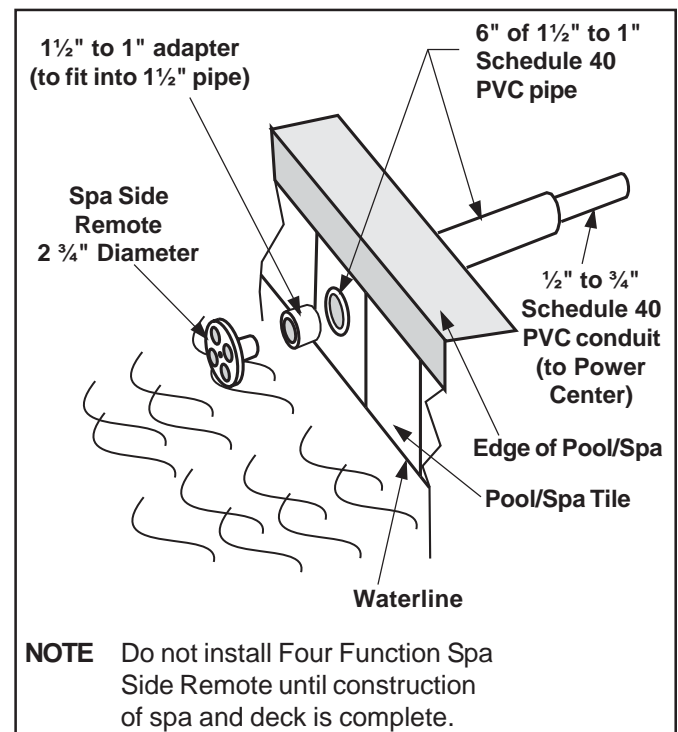

Figure 1. Spa Side Remote Installation for Concrete/Tile
1. Install a 6" (minimum) piece of 1½" or 1" Schedule 40 PVC pipe in the pool/spa wall so that the Four Function Remote will not be constantly submerged, see Figure 1. A 1½" to 1" Adapter is included for use if 1½" PVC pipe is being used. This pipe will house the remote installed vertically in the wall of the pool or spa. Carefully trim the end of the pipe flush with the wall after all tile work is completed. There must be least 2" of clearance from coping stones or other raised objects to the Schedule 40 pipe.